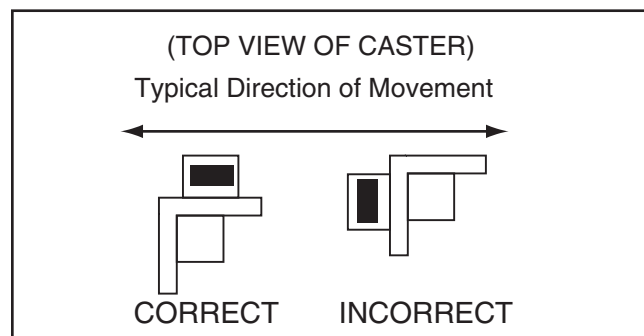

Figure 8. Orientation of fixed casters for easy machine movement.
5. Orient fixed casters in same direction machine will typically be moved (see **Figure 8**). Mounting fixed casters in wrong direction will make it difficult to move mobile base around in small spaces.